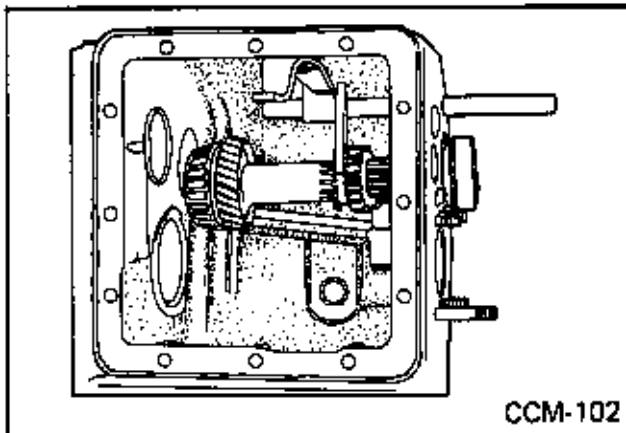

Fig. 97
13. Drive reverse shift rail to rear, remove shifting fork. (Fig. 97)
14. Drive main drive shaft to rear, removing rear bearing cup. Remove main shaft through side opening. Remove front bearing cup and snap rings. (Fig. 97)
1. Install main drive shaft front bearing cup, snap ring, main shaft assembly, rear bearing, and cup. See Fig. 97 for assembly sequence.